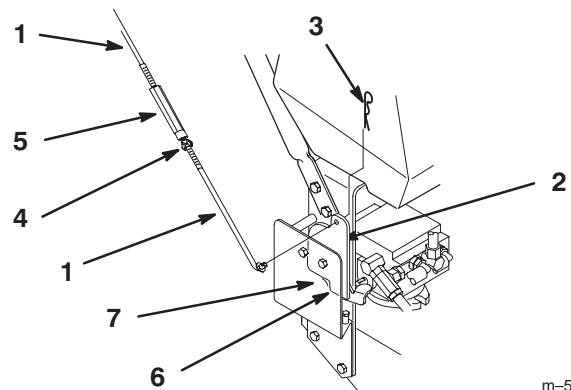

Figure 6
- Slide rod into control bracket and secure with hairpin cotter (Fig. 6).
- Push rod full forward until bearing is against control bracket stop. Loosen wing nut and thread turnbuckle in or out until rod aligns with holes in upper control bars (Fig. 6).
- Loosen wing nut on right control rod and rotate turnbuckle in or out to change tracking. Secure turnbuckle in position with wing nut (Fig. 6).